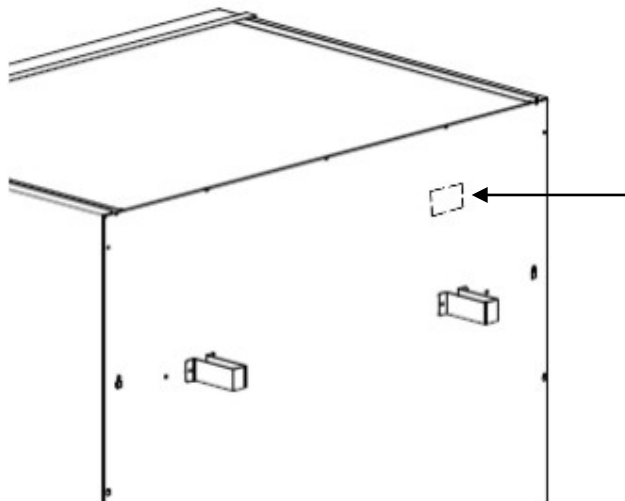

Figure 16: Rear view UF V with pre-punched access port
- Break out the pre-punched rectangle in the rear wall (Figure 16) with suitable pliers